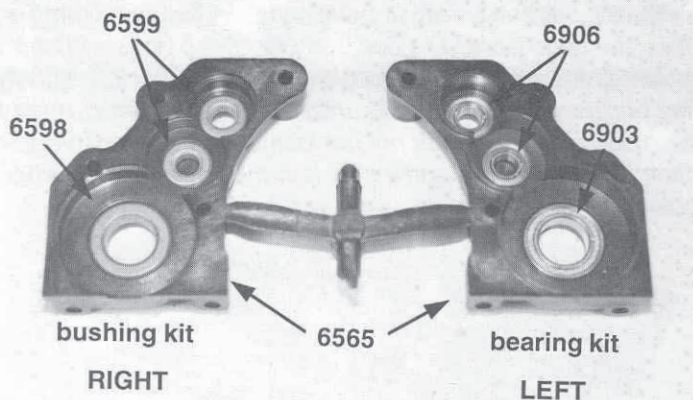

Fig. 53
□ Fig. 53 Open bag C and remove the #6565 left and right case halves. There are five other parts on the parts tree so make sure you put them back in bag C for now. Make sure that you remove any flashing near the bottom of the case halves. Go back to bag B and remove four #6906 3/16" x 3/8" unflanged ball bearings or four #6599 3/16" x 3/8" unflanged bushing. Also remove two #6903 3/8" x 5/8" unflanged Teflon sealed ball bearings or two #6598 3/8" x 5/8" unflanged bushings. (Bag B is the only tranny bag that will vary depending upon which kit you have.) In the photo we have installed bushings in one case half and ball bearings in the other case half. Both halves will receive the same bushings or bearings depending upon which kit you have.